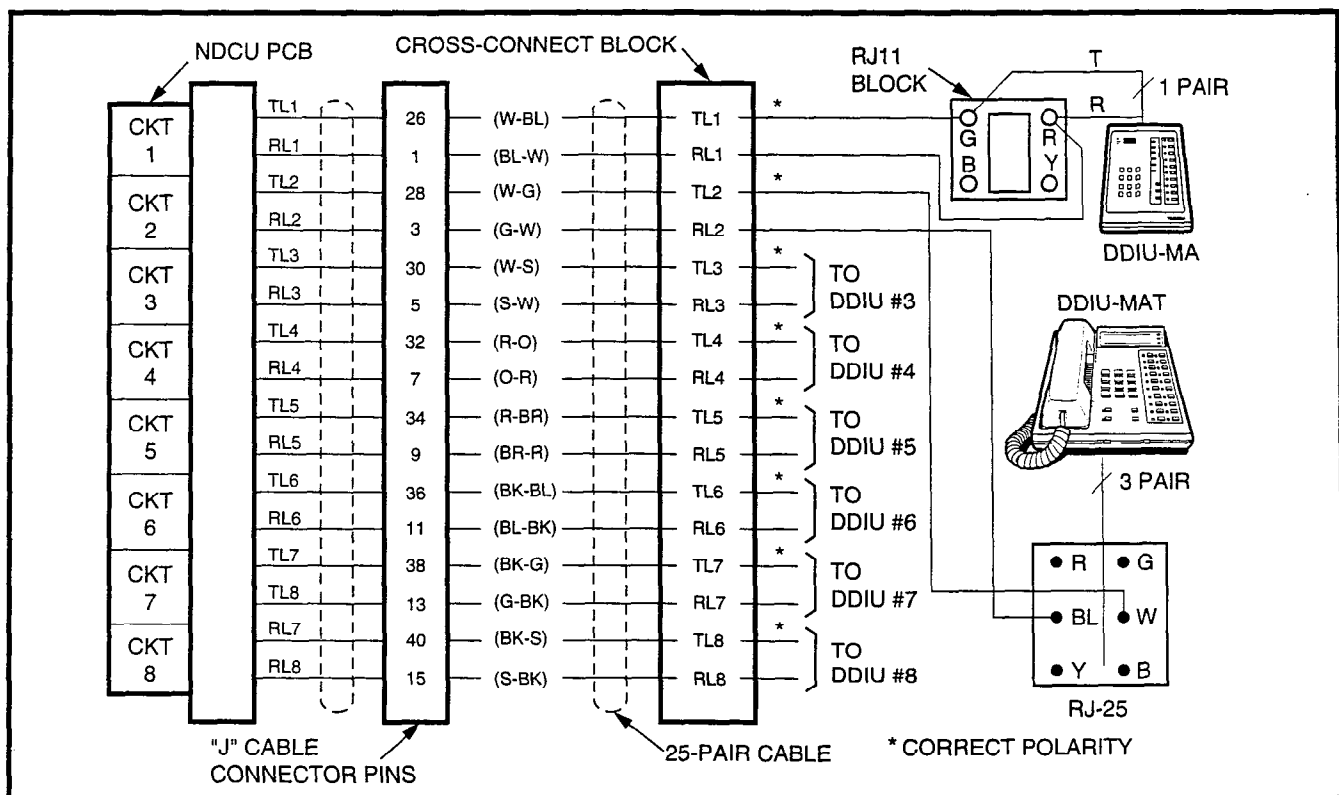

FIGURE 4-37—DIGITAL DATA INTERFACE UNIT CONNECTION (DDIU-MA and DDIU-MAT)
5.73 Digital Data Interface Unit connection details are shown in Figure 4-37.